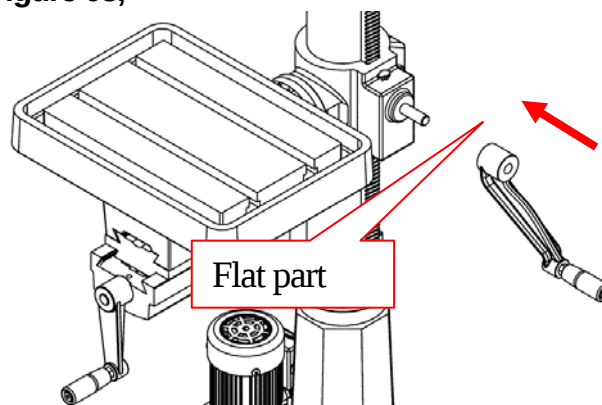

Figure 03
2. Install the crank lever over the pinion shaft, and tighten the setscrew in the crank handle against the flat part of the pinion shaft. **Figure 03**,